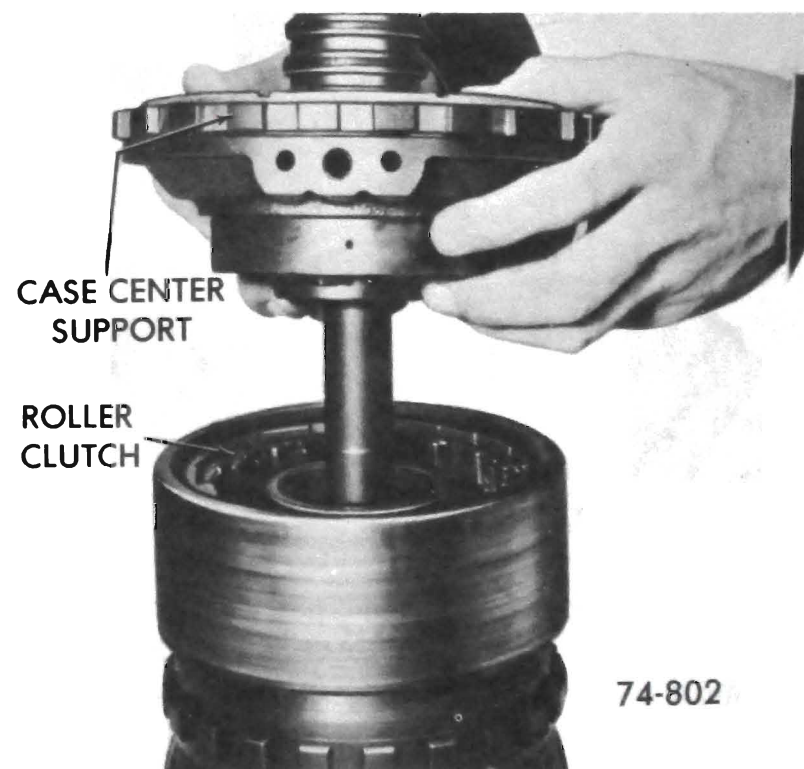

Figure 76-101
1. Remove center support assembly. See Figure 76-101.